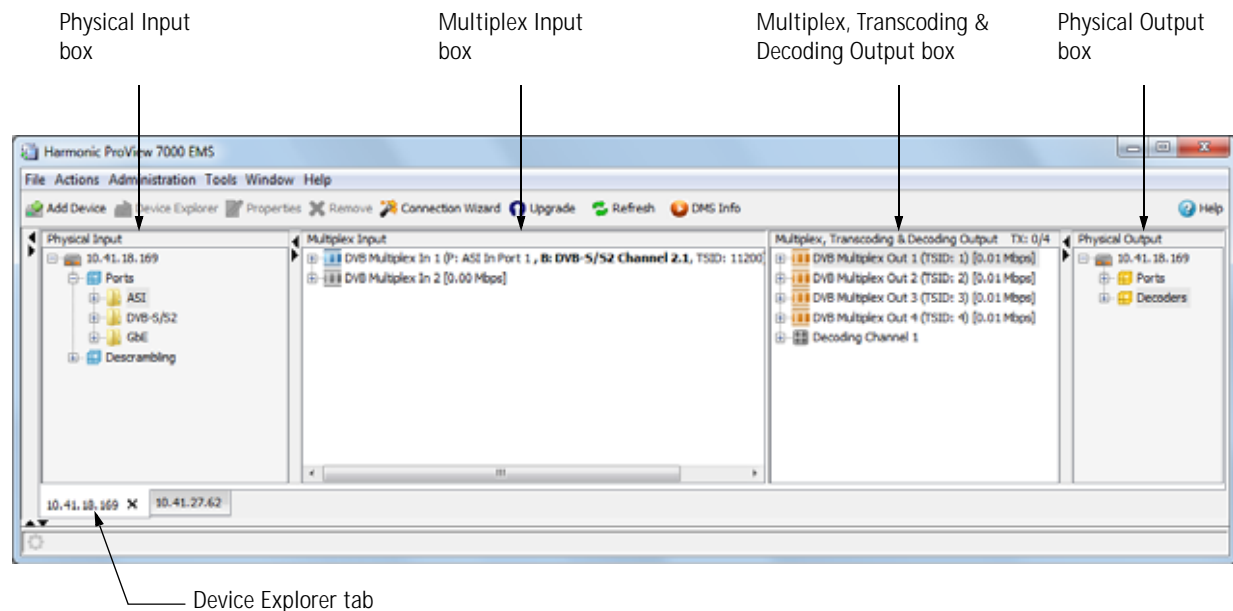

Figure 6–3: Device Explorer tab
- The Device Explorer tab is divided into four boxes, see Figure 6–3. It comprises: